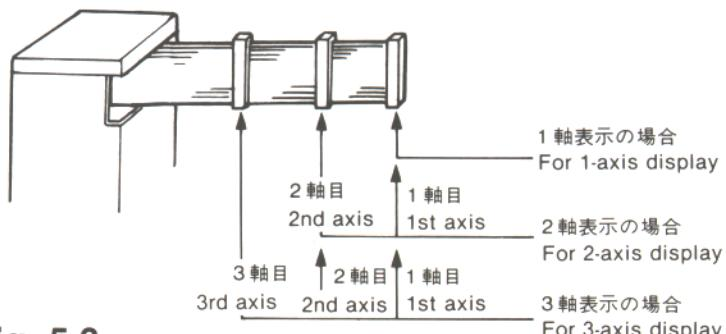

Fig. 5-3
2軸、3軸の場合は使用コネクタの位置が異りますので「使用コネクタの位置」(10ページのFig.5-3)をご参照下さい。
- ① Remove the rear cover of the display unit.
- ② Couple the connector of the power supply unit to the display unit. To connect the power supply unit with more than one display unit, refer to "Position of Connectors" (Fig. 5-3 on page 10) for the correct position of each connector.
- ③ Fit hook A of the power supply unit in the lower slit of the display unit and hook B in the upper slit.
- ④ Slide the power supply unit to the right.
- ⑤ Fill the recess formed in the upper surface of the power supply unit with the bush provided, screwing the bush to the display unit.
- ②電源ユニットからの電源供給ケーブルのコネクタを各々の表示ユニットへ接続します。(Fig.5-3)
- ③電源供給ケーブルを接続後、シールドと2軸又は3軸表示の固定を兼たケーブルカバーを取付けます。
- ② Connect the power supply cable connectors of the power supply unit to the respective display units. Refer to "Position of Connectors" below. (Fig. 5-3)